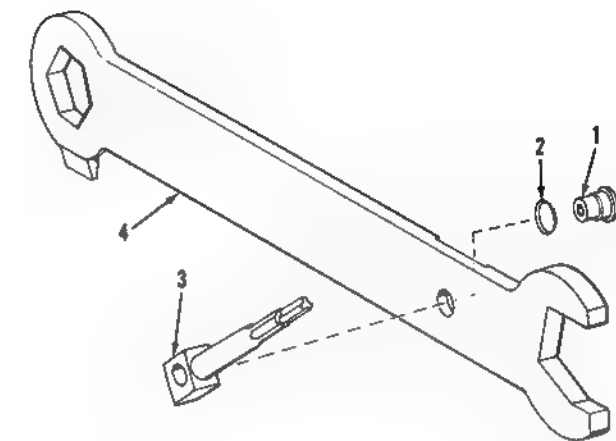

Figure 4-2. Combination screwdriver and reamer wrench—exploded view.
a. *Disassembly and/or Assembly.* Refer to figure 4-2 and TM 9-1005-224-34.